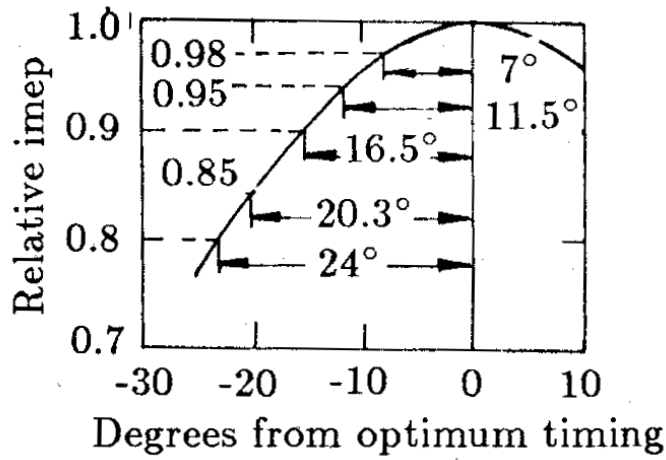

Fig. 5.6 Power Loss due to Ignition Advance
- As seen from Fig.5.6, when the ignition advance is increased there is a drastic reduction in the $imep$ and the consequent loss of power however some times a deliberate spark retardation from optimum may be